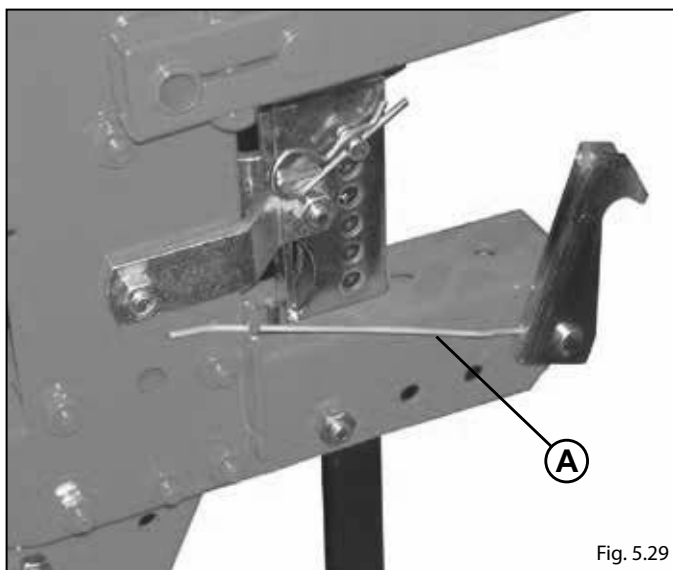

Fig. 5.29
- Position spring **A** in its "high" position (Fig.5.29);